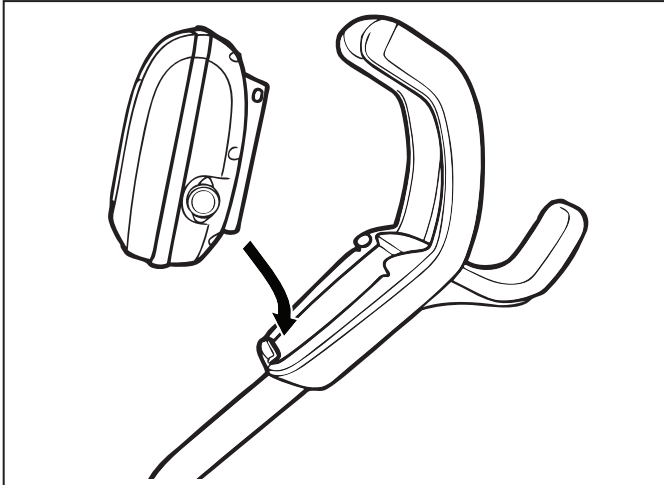

Figure 8. Align Control Unit with Caddy Hook
9. Align the bottom of the Control Unit with the notch at bottom of the Control Unit hook on the caddy (Figure 8).